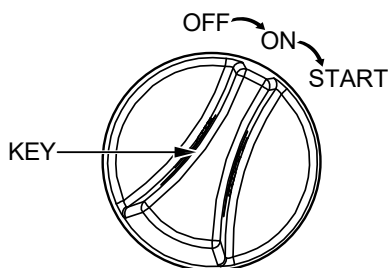
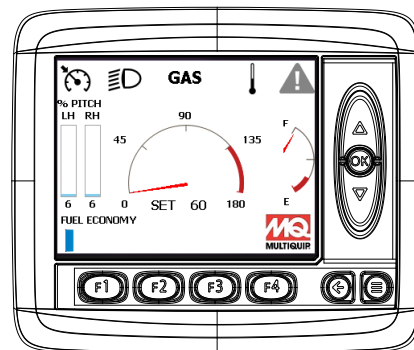

Figure 32. Ignition Key Switch
Figure 33. Digital Display (Menu Screen)
2. Insert the **ignition key** into the ignition switch (Figure 32).
3. Turn the ignition key clockwise to the **ON** position (Figure 32). The **digital display** will turn on and the menu screen (Figure 33) will appear on the display.